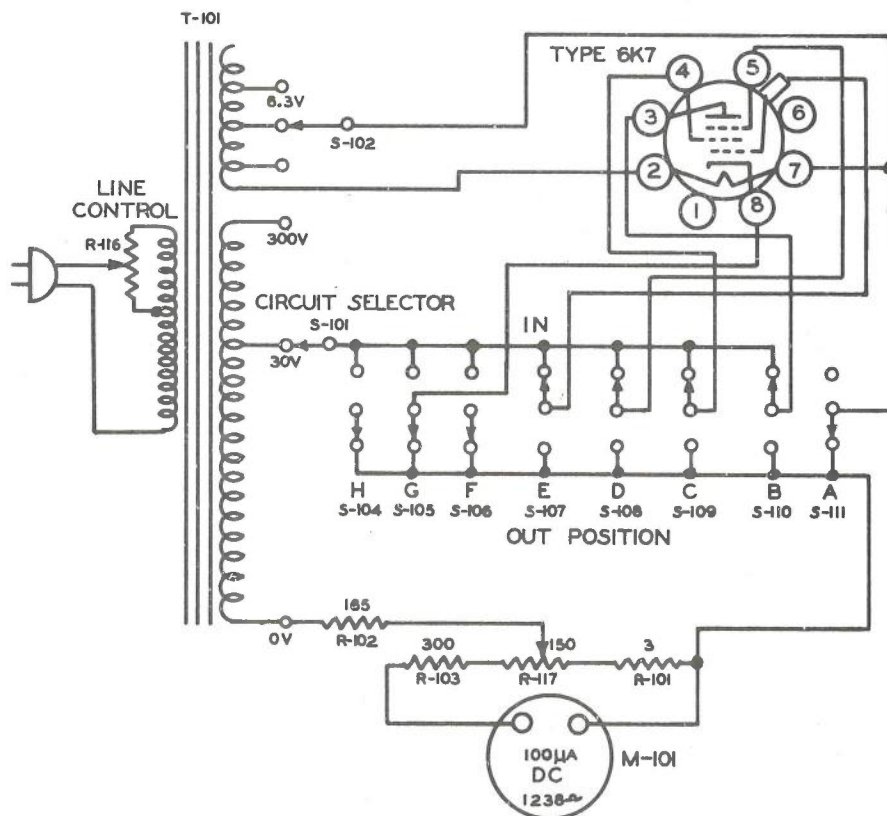

Figure 2-1. Simplified Schematic, Tube Test Section of Tube Tester
a. BASIC CIRCUITS OF TUBE TESTER TV-4/U. (See figure 2-1.) - The major circuit sections of the Tube Tester are shown in the Simplified Schematic, Tube Test Section. Energy for all tube elements is supplied by the power transformer through the FILAMENT, CIRCUIT and TUBE selectors to the socket panel. For purposes of explanation, the unit can be subdivided into the following basic circuit sections.
(1) POWER TRANSFORMER. - Supplies all potentials for the tube test functions as well as for the capacity meter ranges. Basically this transformer consists of a primary winding and three secondary sections with a total of 29 terminals. All windings are accurately wound; so that a single line control of the potentiometric type in the primary circuit can be used to adjust all of the secondary voltages.
(2) FILAMENT SELECTOR. - This consists of a 17-position switch with each contact connected to a transformer tap on the filament winding. Filament voltages can thus be individually selected in steps from 1.1 volts to 117 volts by rotating the switch knob. The operator should realize that it is important to index this switch correctly as the first operation in testing a tube.
(5) ELECTRODE SWITCHES. - As shown in figure 2-1, these switches connect between the socket panel and the electrode energizing circuits, with the exception of the filament circuit. Filament current is not fed through these switches. The switches are used individually or in groups for both tube tests and short tests. The first electrode switch marked A is used particularly for the cathode leakage test on indirectly heated tubes. The other electrode switches marked B through H are each connected to a socket terminal and control the energization of that terminal. One switch is used for each active tube element. A table showing the socket terminal controlled by each switch is listed in Section 4. The lower right-hand switch marked NORMAL POSITION in figure 1-2 is the meter reversing switch indicated in figure 2-1. It is only used for tests on three or four particular tubes.
(6) SOCKET PANEL. - The socket panel is actually a separate subassembly and is wired and tested as a complete unit before assembly in the Tube Tester. All thirteen socket terminals are wired directly to a single terminal strip which in turn connects to the electrode switches as shown in figure 2-1. The regular sockets are not lettered and are always used where foot-notes are not listed in the Tube Data Index. There is one regular socket available for each mechanical type of tube base including the miniature nine pin and acorn types. Where peculiar or unusual electrical characteristics are encountered, a †† appears after the tube number indicating that the tube should be tested in the A socket, or a ⊕ may be listed to indicate that the B socket should be used. These special sockets are mounted on the test panel in a row near the bottom of the tube tester. A combination socket near the left-hand edge of the socket panel is used for testing all four prong, five prong and six prong tubes. The large seven pin socket, next in line, will accommodate both large and small diameter seven pin bases. The acorn socket is designed to take five and seven radial pin acorn tubes with or without axial contacts. Octal, loctal, miniature seven and nine pin sockets are also available.
(7) SHORT TEST CIRCUIT. - The short test circuit consists of a transformer winding in series with a rectifier which supplies the DC current required for the short indicator and also for the line check reading. Since the indicating meter is a DC milliammeter, a rectifier is required between the transformer and the meter. This rectifier is a type 3A4 miniature tube (V-101) connected as a diode. It is mounted inside the equipment with the other components and, in conjunction with a resistance capacitance filter, supplies DC potential for both short test and line check functions.
(8) LINE VOLTAGE CONTROL. - This is a power type potentiometer for adjusting all test potentials.
(9) INDICATING METER. - This meter is basically a DC milliammeter operating in conjunction with the vacuum tube rectifier for line check reading. It functions with a full-wave copper-oxide rectifier for capacity readings and is used directly as a DC milliammeter for tube test readings.
The basic principle of operation can be readily understood by referring to the simplified schematic (figure 2-1) showing a 6K7 tube under emission test.